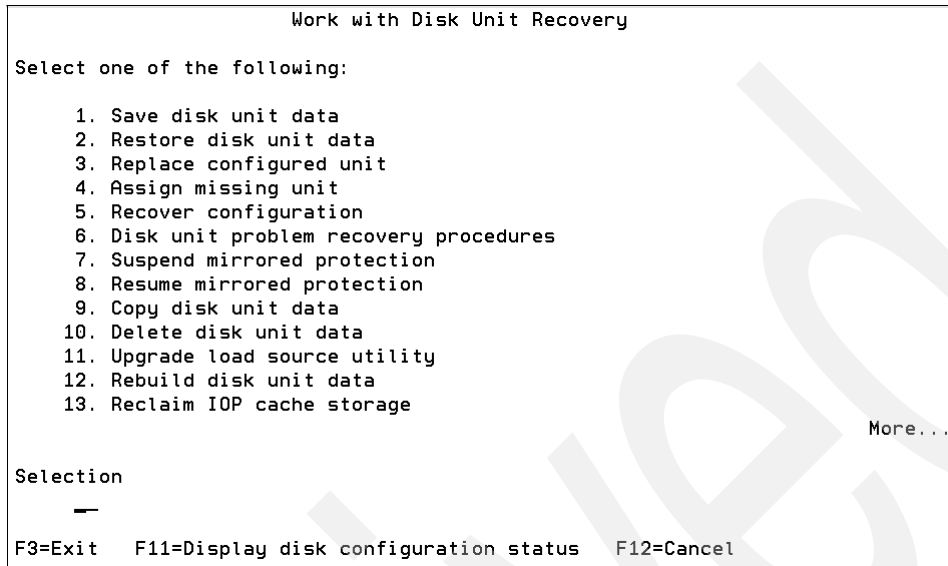

Figure 3-31 The Work with Disk Unit Recovery screen
- a. At the Work with Disk Unit Recovery screen (Figure 3-31), enter 6 (Copy Disk Unit Data).